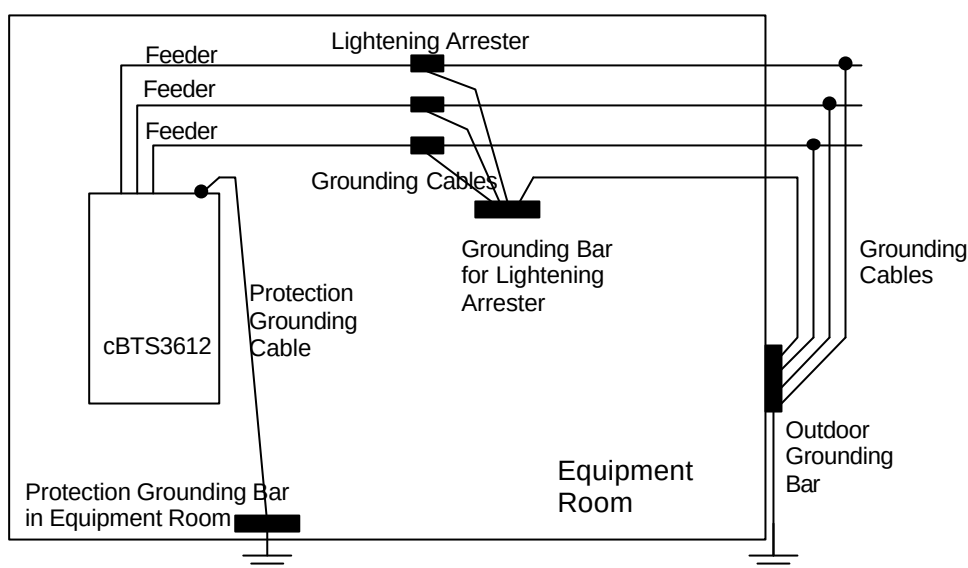

Figure 6-73 Grounding the lightning arrester
- 3) Connect the lightning arrester with a grounding cable, and then connect the cable to the grounding bar especially for the lightning arrester, as shown in Figure 6-73. The radius of the grounding cable should be no less than 6mm².
- 4) Connect the grounding bar for the lightning arrester with a grounding cable, and then connect the cable to the outdoor grounding bar, as shown in Figure 6-73. The radius of the grounding cable should be no less than 16mm^2 .